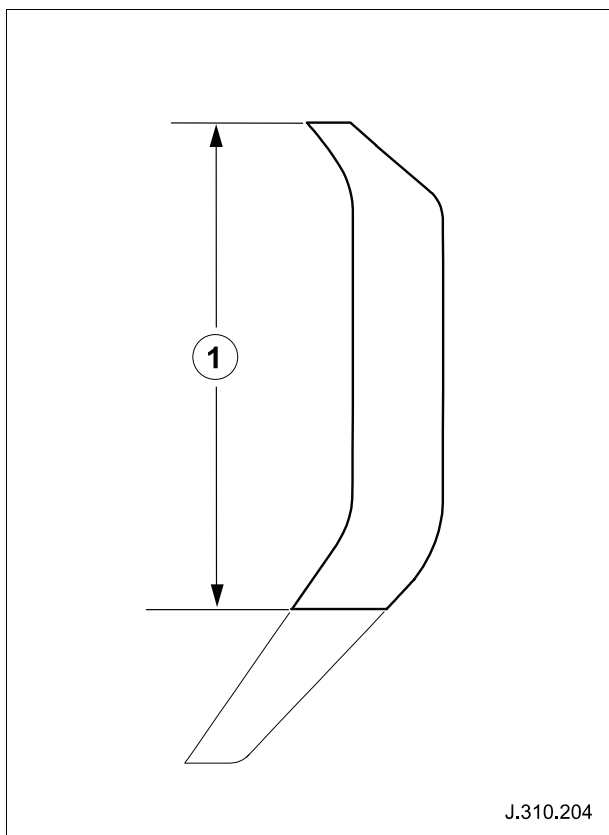

Fig. 2
13 Place new fuel tank to body seal to front, measure and mark the position (1) for the cut on the new seal (74.5mm from the short lip see Fig. 2).